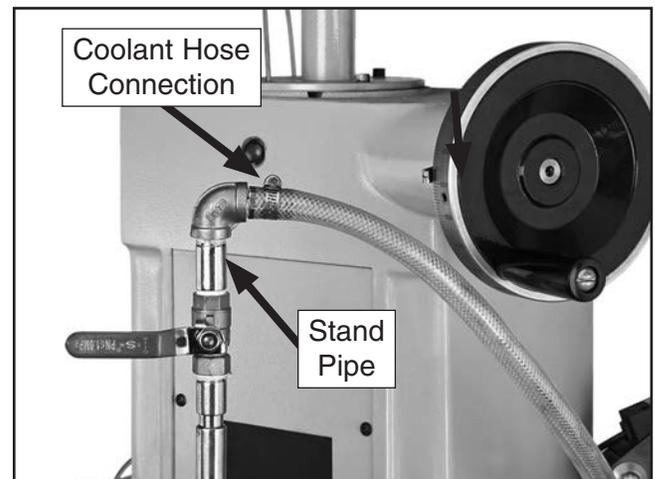

Figure 12. Coolant hose connection to stand pipe.
5. Disconnect coolant hose from stand pipe shown in **Figure 12**.